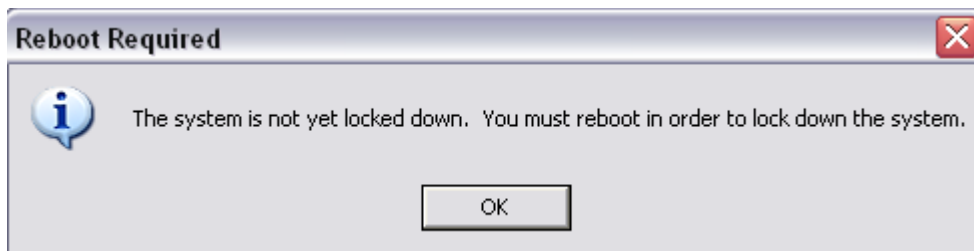

Figure 49: "Reboot Required" message
10. The **Reboot Required** message appears (Figure 49); click **OK**.